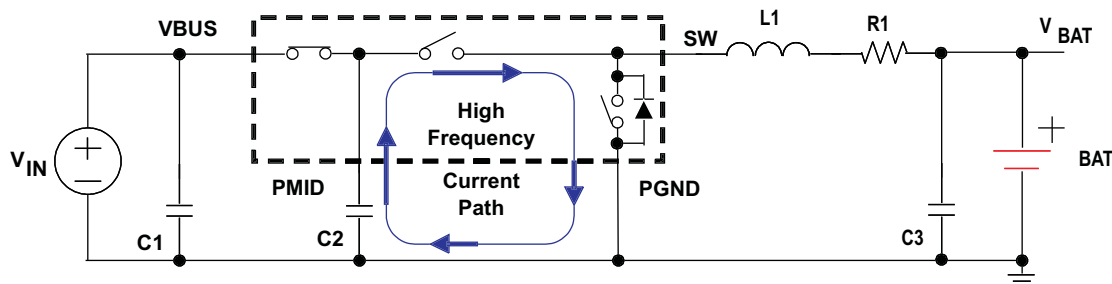

Figure 35. High Frequency Current Path
- To obtain optimal performance, the power input capacitors, connected from input to PGND, should be placed as close as possible to the bq24150/1. The output inductor should be placed close to the IC and the output capacitor connected between the inductor and PGND of the IC. The intent is to minimize the current path loop area from the SW pin through the LC filter and back to the PGND pin. To prevent high frequency oscillation problems, proper layout to minimize high frequency current path loop is critical (see Figure 35). The sense resistor should be adjacent to the junction of the inductor and output capacitor. Route the sense leads connected across the RSNS back to the IC, close to each other (minimize loop area) or on top of each other on adjacent layers (do not route the sense leads through a high-current path, see Figure 36).